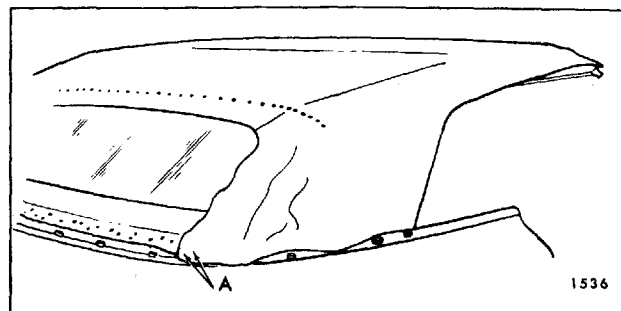

Fig. 6-41—Tacking Top Material
18. Using previously marked lines (ends of trim stick) as locating reference, tack top material to rear and rear quarter trim sticks. "A" in Figure 6-41 shows top material installed to rear trim stick at inboard edge.